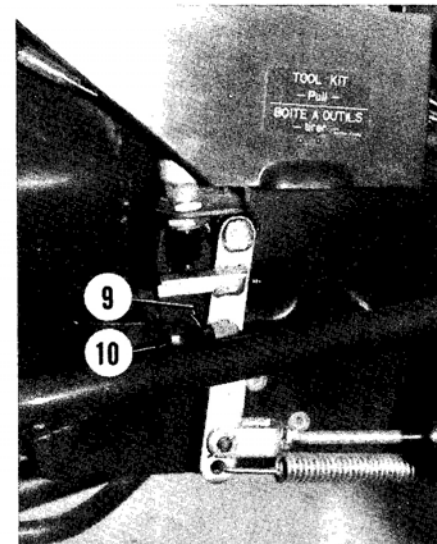

Fig. 40—View of locknut (9) and adjusting screw (10), used for adjusting clutch pedal travel.
Adjust clutch pedal travel by loosening locknut (9—Fig. 40) and turning adjusting screw (10) until correct travel distance is attained, then retighten locknut.